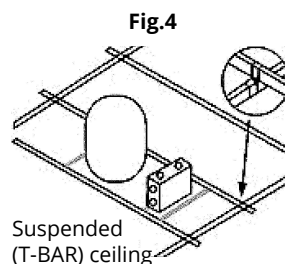

Fig.4
2. Suspended (T-bar) ceilings — extend bar hangers 1" past T-bars then rest fixture on t-bars. Secure fixture to t-bars with wire see (see Fig.4)